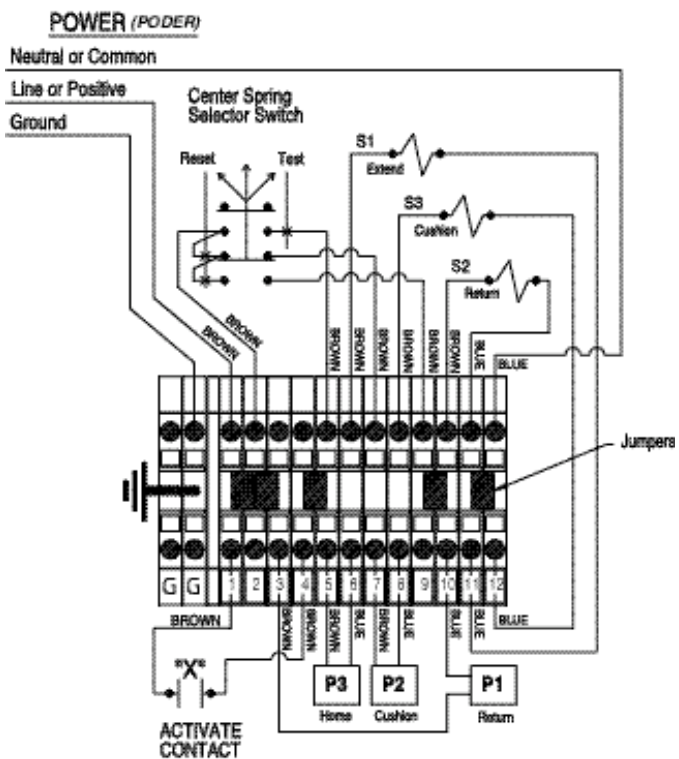

FIGURE 9A
1... The above sequence is for the pusher as it is wired at the factory. (See Wiring Diagram on Page 9–Figure 9A). In this configuration P-3, the home position sensor, is wired in series with the test switch, and is used to override the activation signal, to insure the signal is a pulse. If the test switch is held closed, the pusher will continue to cycle.